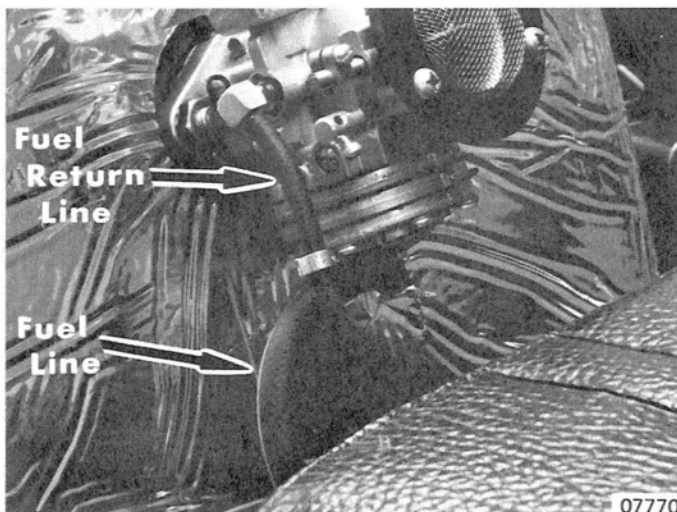
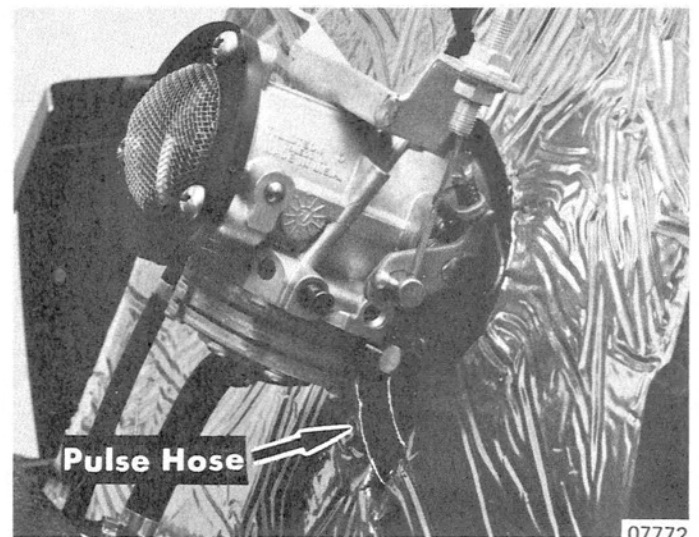

Figure 4. Carburetor Hose Removal
Figure 5. Carburetor Hose Removal
6. Disconnect fuel line, fuel return line (Figure 4) and pulse hose (Figure 5) from carburetor.
3. Remove fixed jet plug (Figure 4), fixed jet and washer.